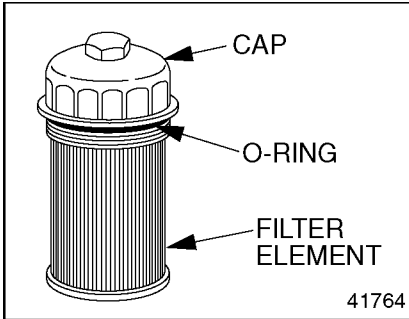

Figure 46 Cap with Oil Filter Element
filter element, twist the lower edge of the filter element to the side. See Figure 46.
5. Replace the O-ring on the cap. See Figure 46.